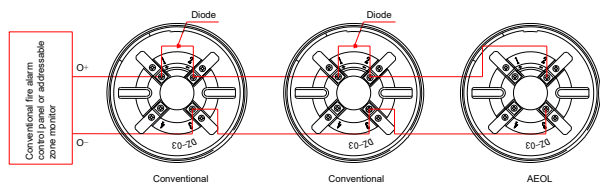

Fig. 6
- When the AEOL is not used as the detector base, a cover should be put on it. The system connection is shown in Fig. 6.